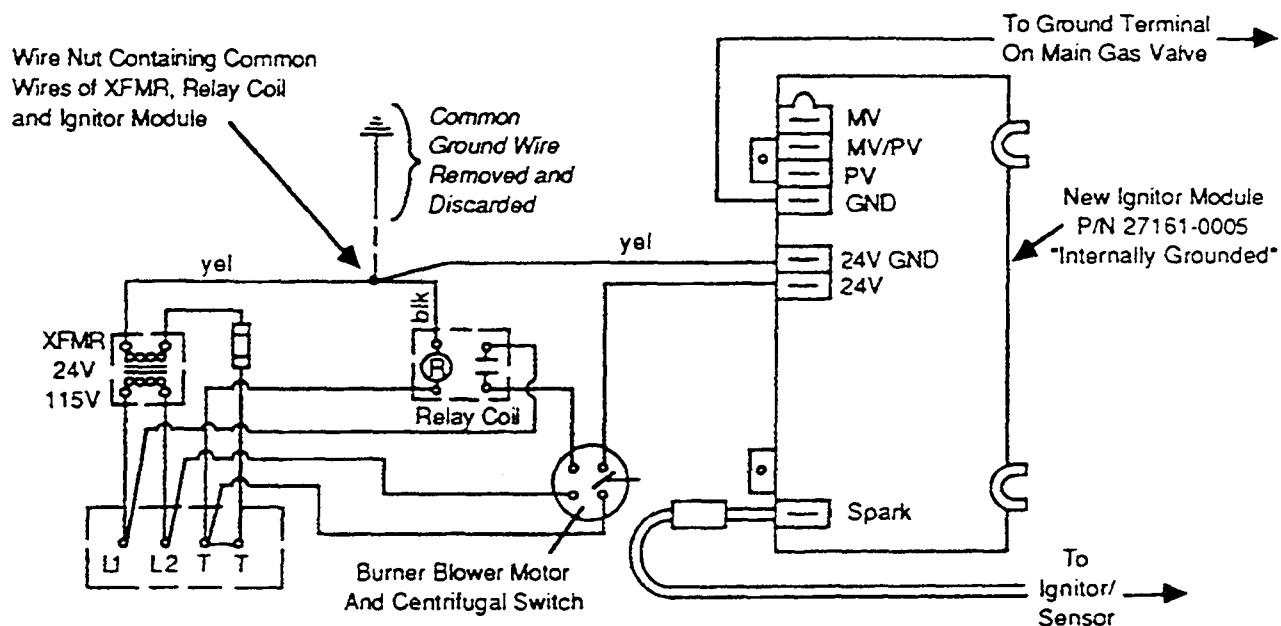

Figure 1
- 1. NEW MODULE MUST NOT HAVE GROUND WIRE (FIG. 1).**
1. WHEN REPLACING AN OLD MODULE WITH A NEW MODULE IT IS MANDATORY TO REMOVE AND DISCARD THE BURNER TRANSFORMER GROUND WIRE. SEE FIGURE 1.